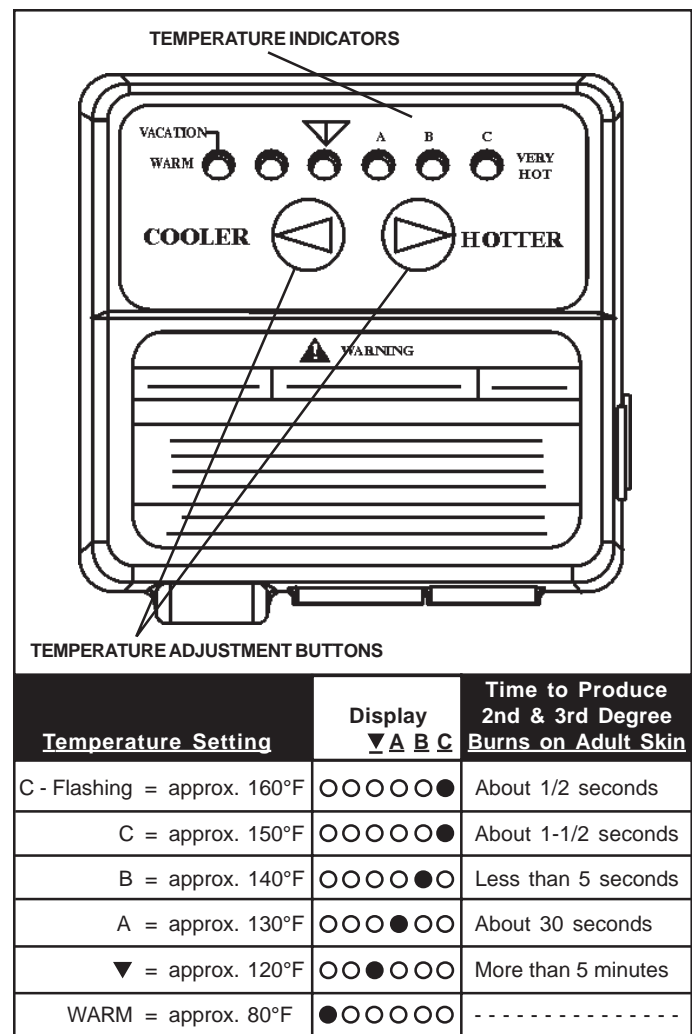

FIGURE 9
Figure 9 shows the approximate water temperatures produced at various thermostat settings. Short repeated heating cycles caused by small hot water uses can cause temperatures at the point of use to exceed the thermostat setting by up to 30°F (17°C). If you experience this type of use you should consider using lower temperature settings to reduce scald hazards.
1. "Wake Up" the temperature indicators by holding down both "COOLER" and "HOTTER" temperature adjustment buttons at the same time for one second (See Figure 9). One or two of the temperature indicators will light up. These indicators will only remain on for 30 seconds if no further buttons are pressed. After 30 seconds the control will go back to "Sleep" mode.